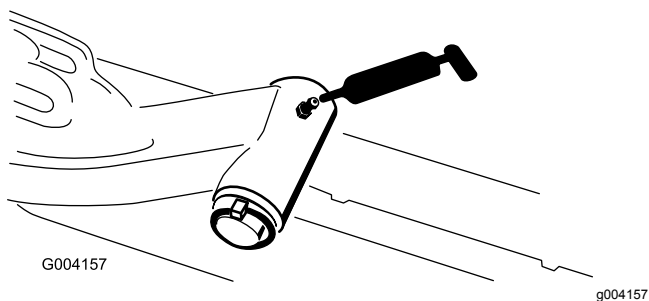

Figure 63
- Lift-arm pivot shaft (1 each)—Figure 63